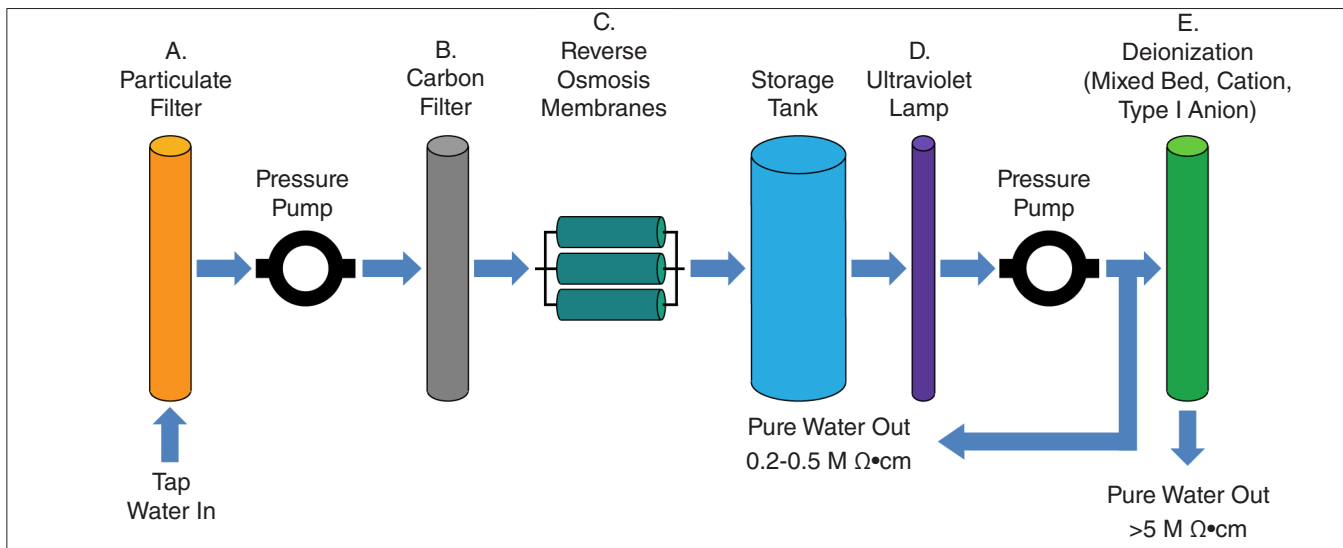

Figure 6.3b: Reverse Osmosis / Deionized Water System.
Type I anion is only necessary in the mixed bed “polishing” stages of the deionization (Figure 6.3b, Stage E), not in the initial “rough” purification stages.
- Figure 6.3b below shows an effective Reverse Osmosis / Deionized Water System with Anion Type I Resin for spray water silica removal.